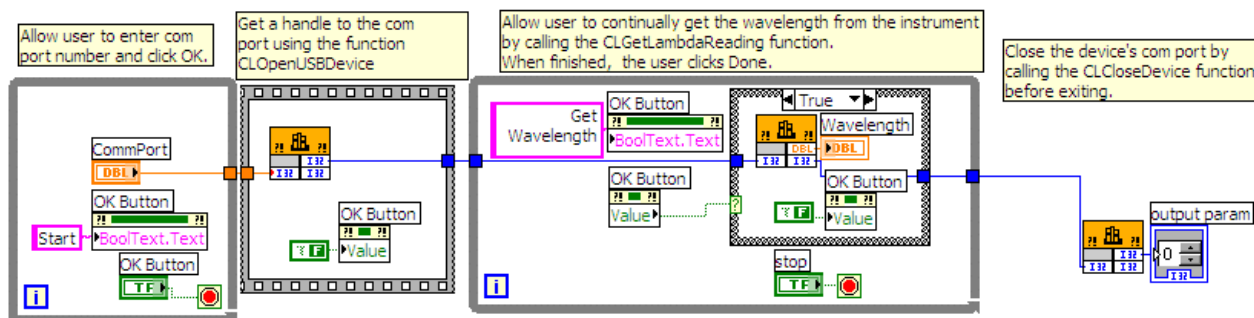

Figure 6.2: Sample getWavelength_v80.vi.
- 8 Repeat the steps to configure any other function calls needed and then wire the nodes together. The sample .vi (getWavelength_v80.vi) shown in Figure 6.2 opens the serial device based on the com port specified, and then gets the wavelength every time the user clicks on “Get Wavelength”.